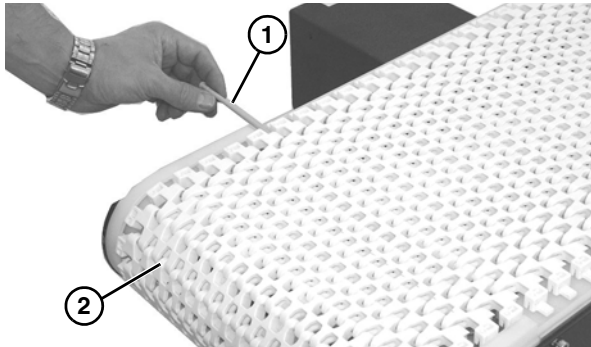

Figure 31
1. Use a punch and hammer to push the belt rod (**Figure 31, item 1**) out by striking the rod end opposite the retaining head.
2. Slide the old belt (**Figure 31, item 2**) off the conveyor frame.